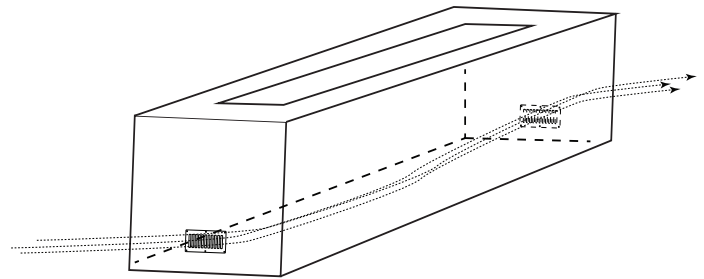

Fig. 8 Shows cross ventilation for a linear enclosure.
- 18 square inches of cross flow ventilation is required into the enclosure (end to end). See Fig. 8.